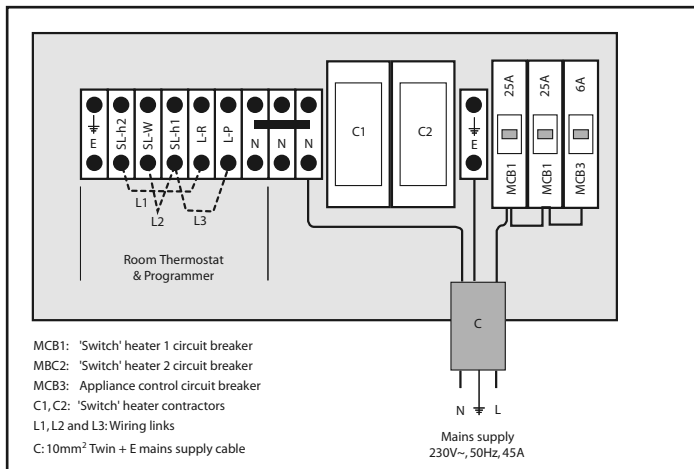

Figure 4.4B Appliance wiring panel with NO clock option
- Remove links L1, L2 and L3 from terminals labelled 'L-P'; 'L-R'; 'SL-W'; 'SL-h1' and 'SL-h2' (see figure 4.4B).